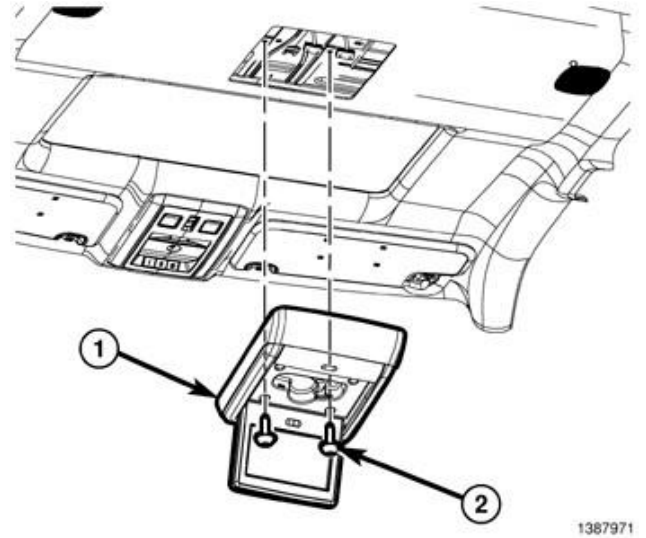
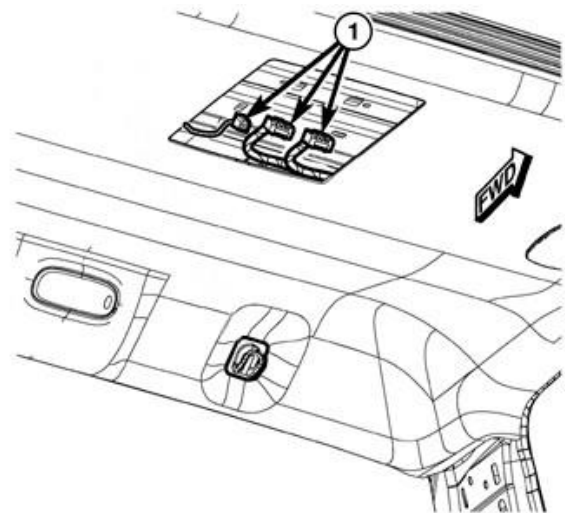

Figure 12 – Rear Seat DVD Monitor
Figure 13 – DVD Monitor Electrical Connectors
19. If equipped with DVD monitor, remove the screws (2) and separate the monitor (1) from the roof (Figure 12).
20. If equipped with DVD monitor, disconnect the electrical connectors (1) (Figure 13).
41. If equipped with DVD monitor, connect the DVD monitor electrical connectors (1) (Figure 13). Position the DVD monitor to the roof then install and tighten the screws (2) (Figure 12).